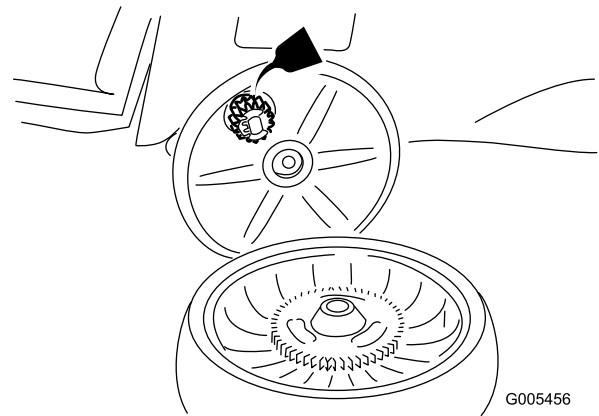

Figure 33
2. Apply a lubricating oil to the gear as shown in Figure 33.